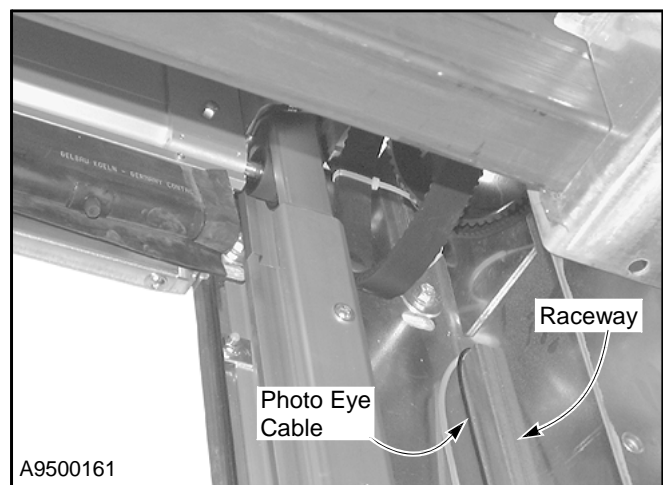

Figure 38
2. Each cable has been routed up through a vertical raceway located in the corner of the side column. Locate the free end of each photo eye cable. (See Figure 38.)